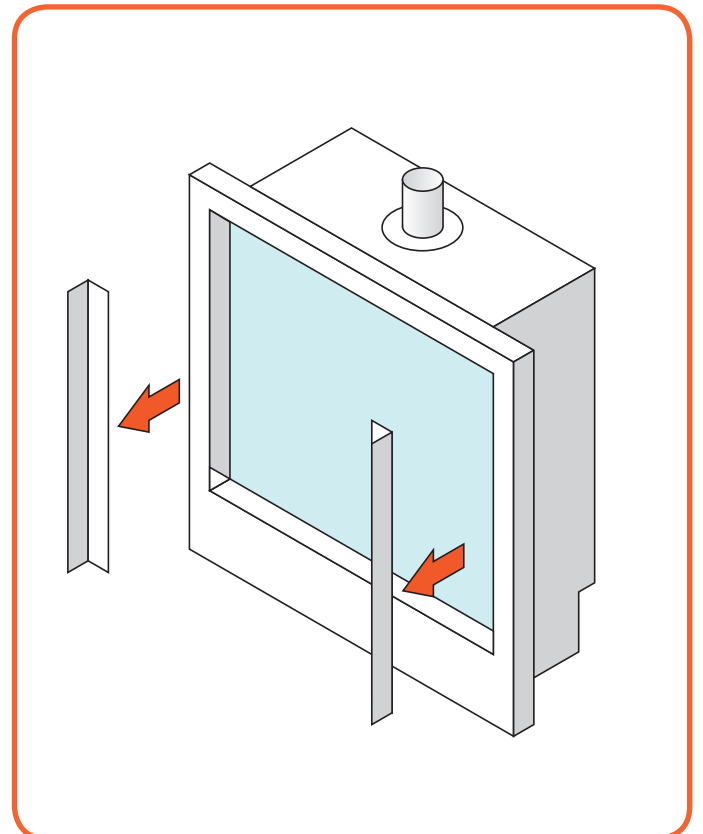

Figure 10.2 - Remove Side trims
- Remove both the side trims. They cover up the window frame. (**Figure 10.2 & 10.3**)